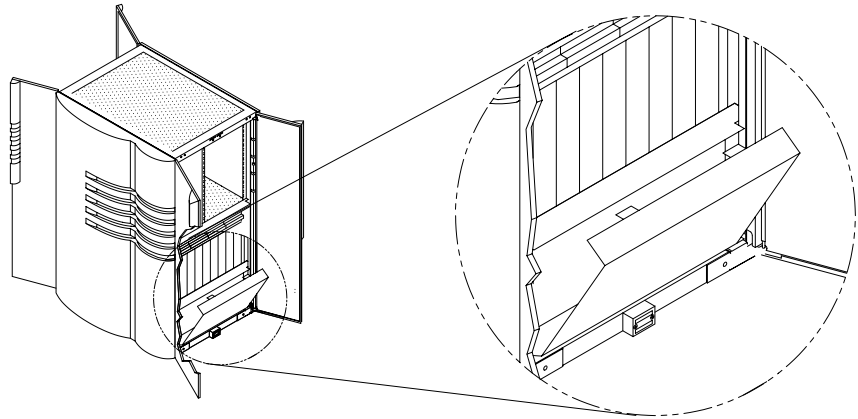

FIGURE 5-6 Installing the Cardboard Divider
- 9. Install the two cardboard dividers (P/N 408-1270-01) into the bottom of the cabinet (FIGURE 5-6).**